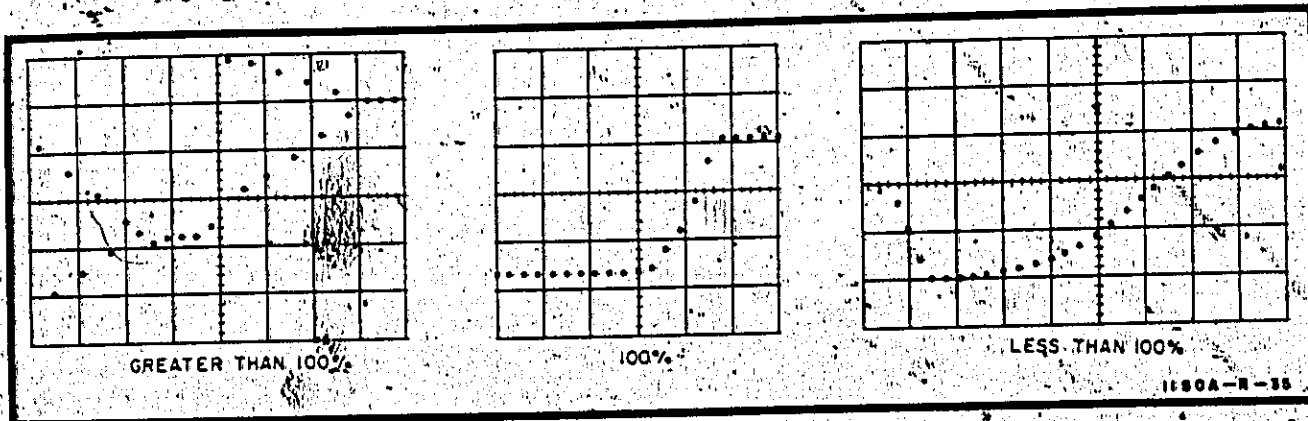

Figure 5-2. Sampling Efficiency Displays
n. Adjust Channel 1 response A22R22 for 100% sampling efficiency (figure 5-2).